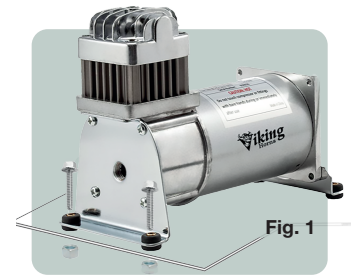

Fig. 1
COMPRESSOR INSTALLATION (Fig. 1)
2. Using the compressors mounting brackets as a template, mark the hole locations and drill to size. Secure the compressor to the mounting surface with the hardware provided. (Fig 1.)